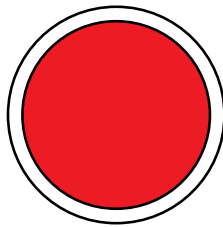

Figure 57. Circuit Breaker OFF Button
2. Press the **Circuit Breaker OFF button** (Figure 57) on each generator in the paralleled system.